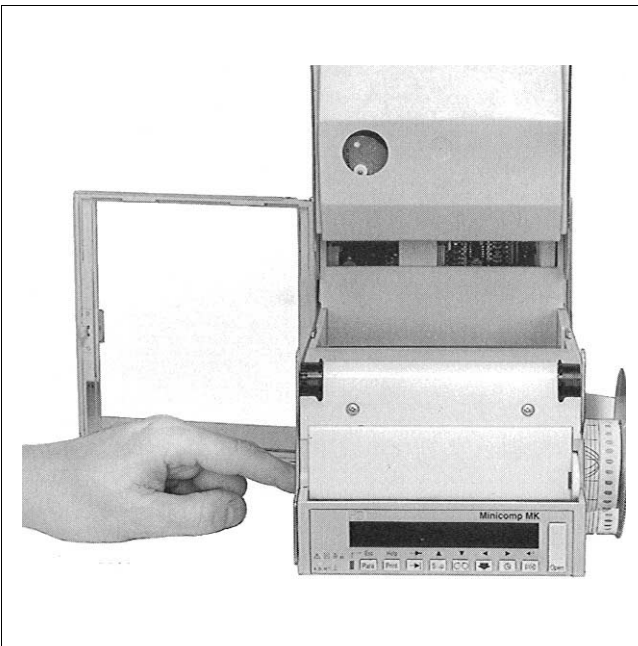

Fig. 17 Removing take-up reel
4. Remove take-up reel with chart paper (see Fig. 17).